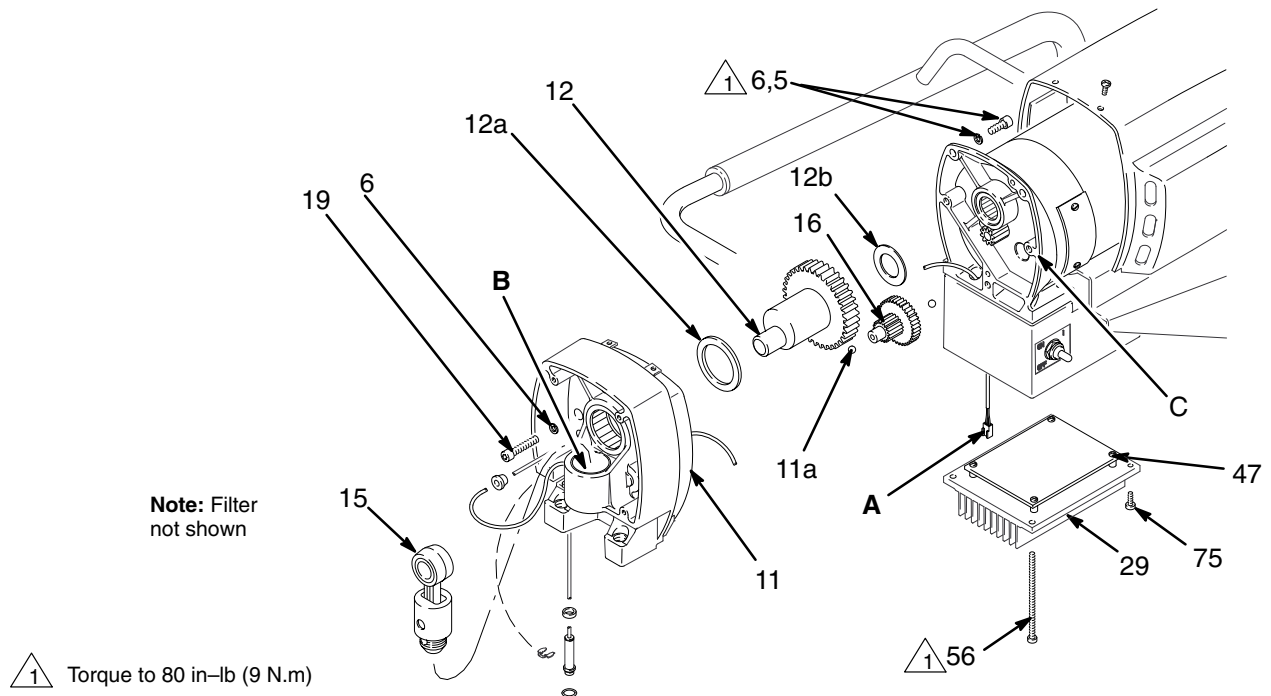

Fig. 28
2. Remove the screws (56,75) and lower the control card (47). See Fig. 28.
3. Remove the rubber boot (55). See page 34.
5. Remove the three drive housing screws and lockwashers (19,6). Also see Fig. 28.
6. Remove the two motor screws and lockwashers (5,6). See Fig. 28.
7. Tap the lower rear of the drive housing (11) with a plastic mallet to loosen the motor. Pull the drive housing straight off the motor.
8. Remove and inspect the crankshaft (12) and the connecting rod (15). Replace all damaged or worn parts.
NOTE: See Fig. 28 and 29 for this procedure.